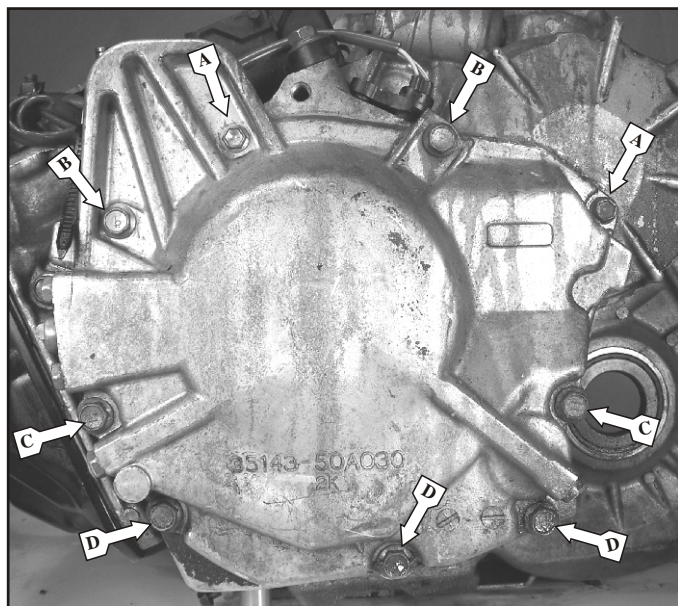

Figure 70
19. Remove the two 10mm headed bolts that are identified with an "A", shown in Figure 70.
20. Remove the remaining seven 12 mm headed bolts as shown in Figure 70. *Note: the bolt lengths are as follows: B= 25mm, C= 48mm and D= 45mm.* Using a hammer gently tap the rear cover off of the case.